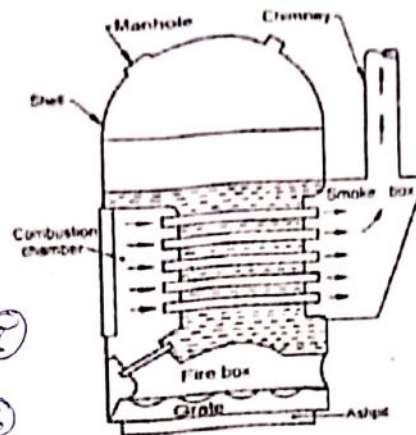

Fig. 3.1 Cochran Boiler
① These are various designs of vertical multitubular boilers. A Cochran boiler is considered to be one of the most efficient type of such boilers. It is an improved type of simple vertical boiler.
② This boiler consists of an external cylindrical shell and a fire box as shown in Fig. 3.1. The shell and fire box are both hemispherical. The hemispherical crown of the boiler shell gives pressure of steam and strength to withstand the pressure of steam inside the boiler. The hemispherical crown of the fire box is also advantageous for resisting intense heat. The fire box and the combustion chamber is connected through a short pipe. The flue gases from the combustion chamber flow to the smoke box through a number of smoke tubes. Then tubes generally have 62.5 mm external diameter and are 165 in number. The gases from the smoke box pass to the atmosphere through a chimney. The combustion chamber is lined with fire bricks on the shell side. A manhole near the top of the crown on the shell is provided for cleaning. ⑦